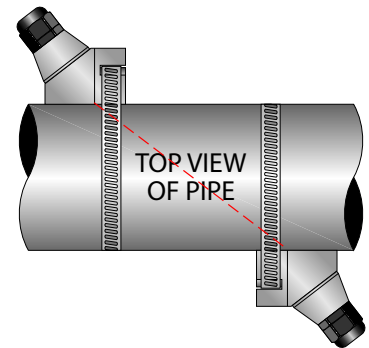

Figure 24: Z-Mount transducer placement
The DTTR, DTTN, DTTT and DTTL transducers must be properly oriented and spaced on the pipe to provide optimum reliability and performance. On horizontal pipes, when Z-Mount is required, the transducers should be mounted 180 radial degrees from one another and at least 45 degrees from the top-dead-center and bottom-dead-center of the pipe. See Figure 24 on page 25. Also see "Z-Mount Installation" on page 24. On vertical pipes the orientation is not critical.
7. Place the downstream transducer on the pipe at the calculated transducer spacing. See Figure 24. Using firm hand pressure, slowly move the transducer both towards and away from the upstream transducer while observing signal strength. Clamp the transducer at the position where the highest signal strength is observed. A signal strength percentage between 10...98 is acceptable.